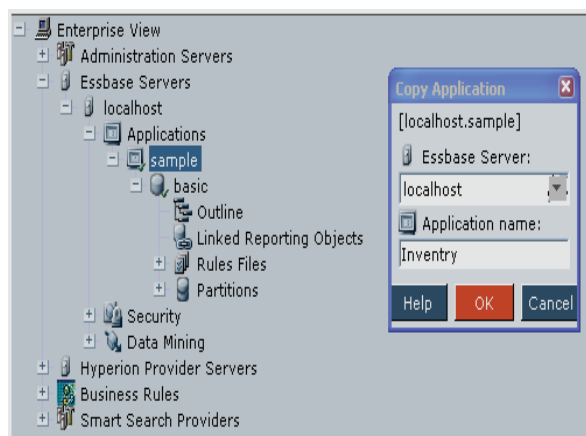

Figure 2
Step 1 - Make a copy of the “Sample Basic” application within Essbase Administration Services (EAS). To do this, right-click on application name “sample” and select “Copy...” Name this new application “Inventory” (we’re limited to 8 characters in naming) and press “OK”. (Figure 2)